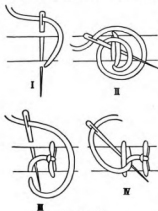

FIGURE 45
*Net Fagoting* (Figure 45). — Finish the edges with a hem and baste the material on stiff paper or cloth as for diagonal fagoting. Fasten the thread on the lower right-hand corner of the pattern (I). Insert the needle on the opposite edge, directly above the first stitch, keeping the needle vertical, and draw the needle out at the stitch below. With the thread drawn firmly, insert the needle under the bar at the